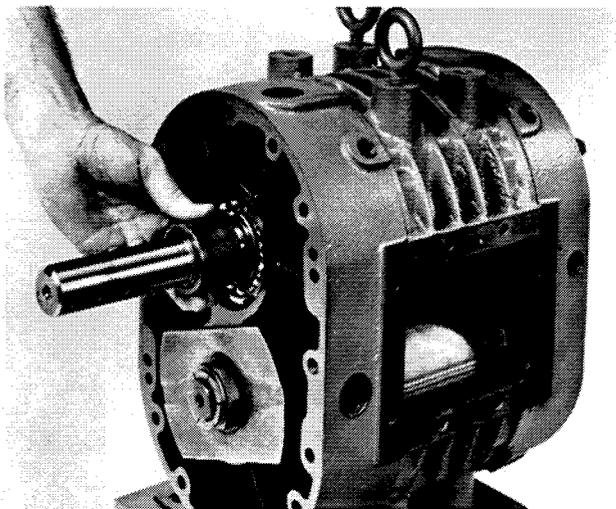

FIGURE 13
- m. Remove the 14 cap screws (18), 14 lock washers (6), and two cap screw and lock washer assemblies (5) from the drive end cover (30).
- o. Remove bearing spacer (20) from drive shaft (see Fig. 13).
- p. Chock idler rotor with wood block. Remove flexlock nut (27) from drive end of idler shaft.
- q. Remove oil flinger (29) and clamp washer (28) from idler rotor shaft.